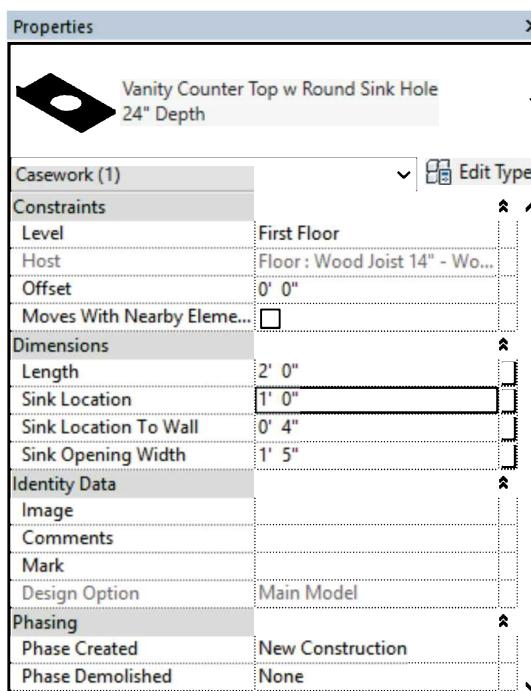

FIGURE 12-1.5 Vanity counter top properties
- Change the *Length* to **2'-0"** and the *Sink Location* to **1'-0"** (Figure 12-1.5).